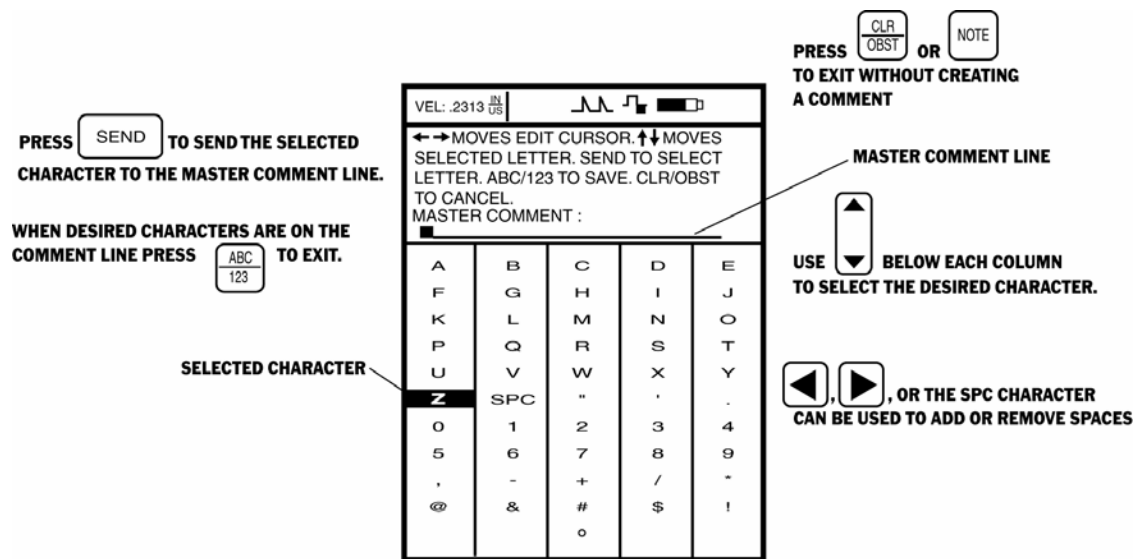

FIGURE 3-8—The Virtual Keyboard allows you to create comments and other text-based tags. It's accessed by pressing **ABC/123**.
Step 3: Select the first comment line so that it's highlighted. Then, press . This will open the Virtual Keyboard (Figure 3-8). You'll use this keyboard to enter any comments you choose (each up to 16 characters in length) into the 16 comment lines provided.